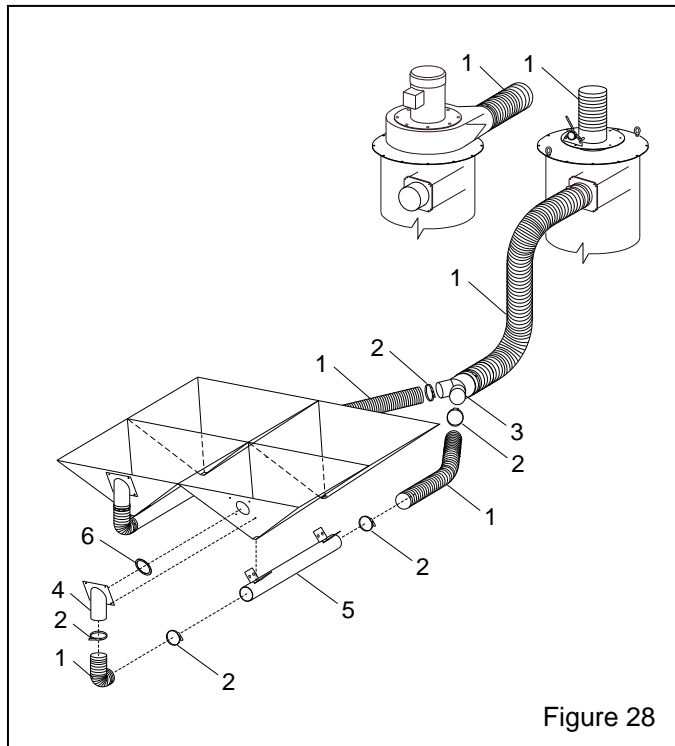

Figure 28
9.7 Flex Hose, Pipe, and Adaptors, Figure 28